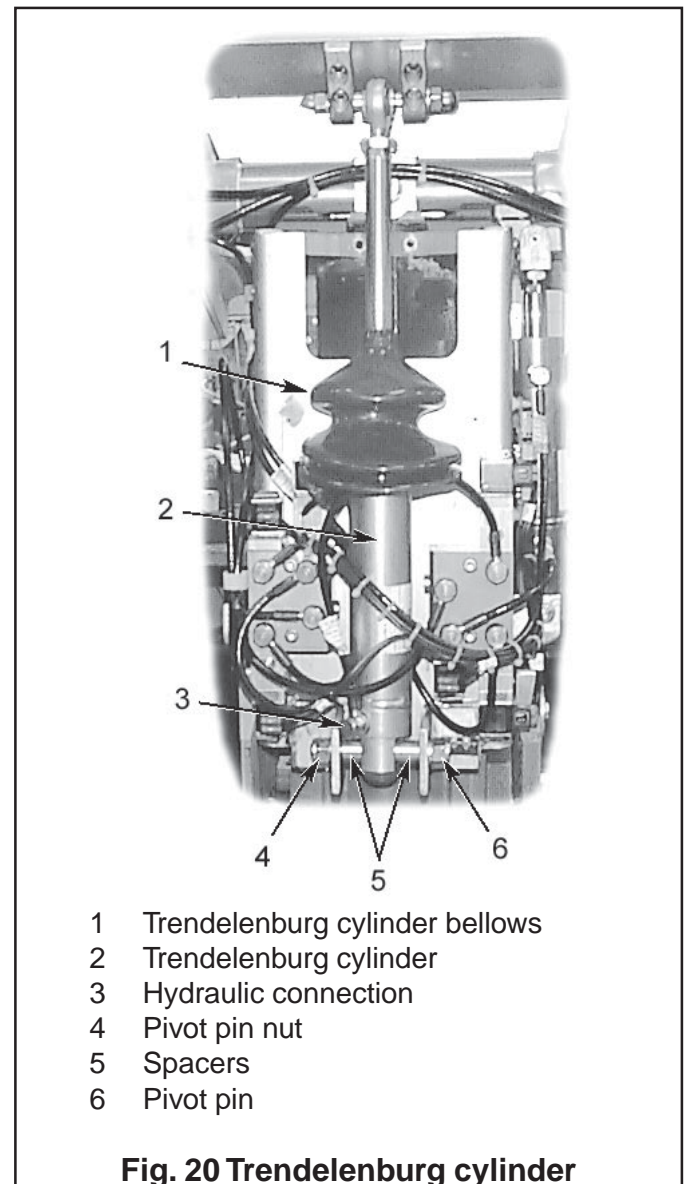

Fig. 20 Trendelenburg cylinder
6.38 To remove the Trendelenburg cylinder (item 2, Fig. 20) proceed as follows:
- ii Disconnect the two hydraulic hoses from the Trendelenburg cylinder and blank off the hydraulic connections and cylinder (only one connection shown, item 3, Fig. 20, the second one is beneath the bellows).
- iv At the column chassis, remove nut (item 4, Fig. 20) from each end of Trendelenburg cylinder pivot pin (item 6, Fig. 20) and remove pivot pin (take care to retain spacers item 5, Fig. 20).